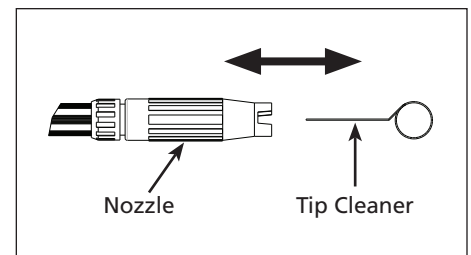

Figure 23
- Using the included tip cleaner, or an un-folded paper clip, insert wire into the nozzle hole and move back and forth until debris is dislodged (refer to Figure 23).